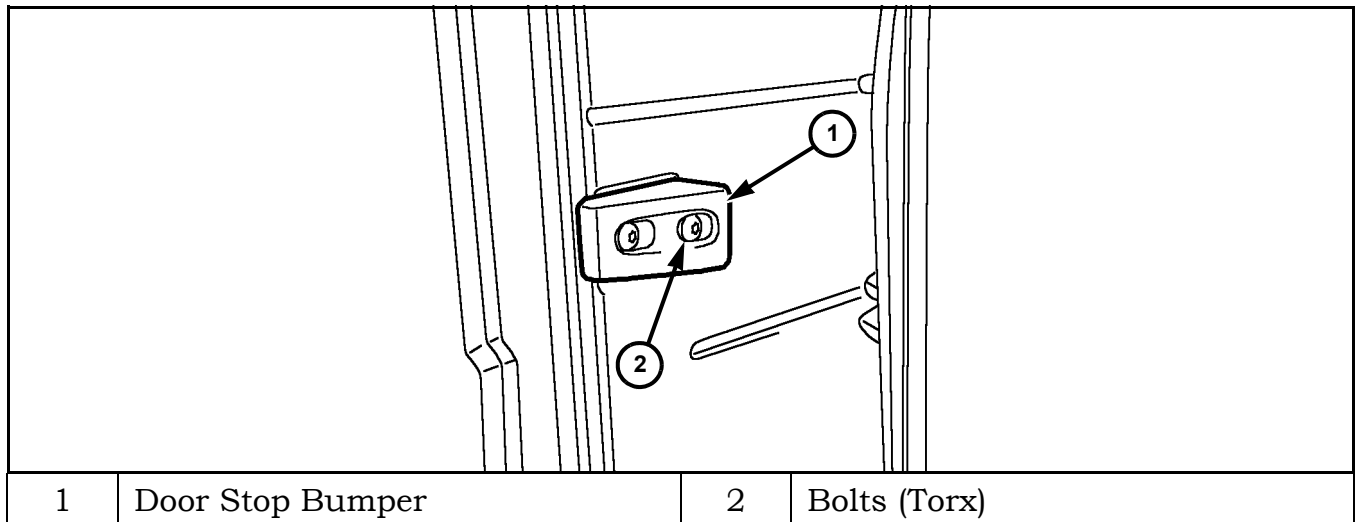

Figure 14 Door Stop Bumper
23. Loosen door stop bumper bolts (See Figure 14).